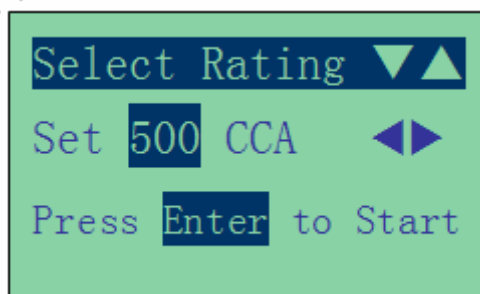
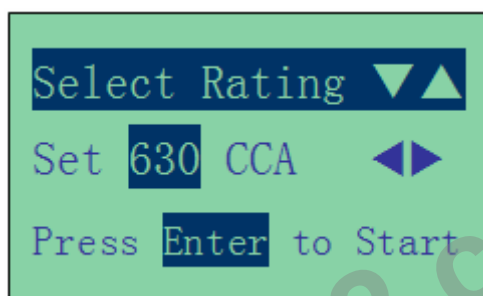

Figure 11
Figure 12
Press  key and the display will show: (Fig.11) below
10. To enter the value 630, press  key will increase the original value of 500 (Fig.11) by step of 100 units to 600. Likewise use  key to increase the last two digits (00) to 30 by step of 5 units for each pressing. (Fig. 12)